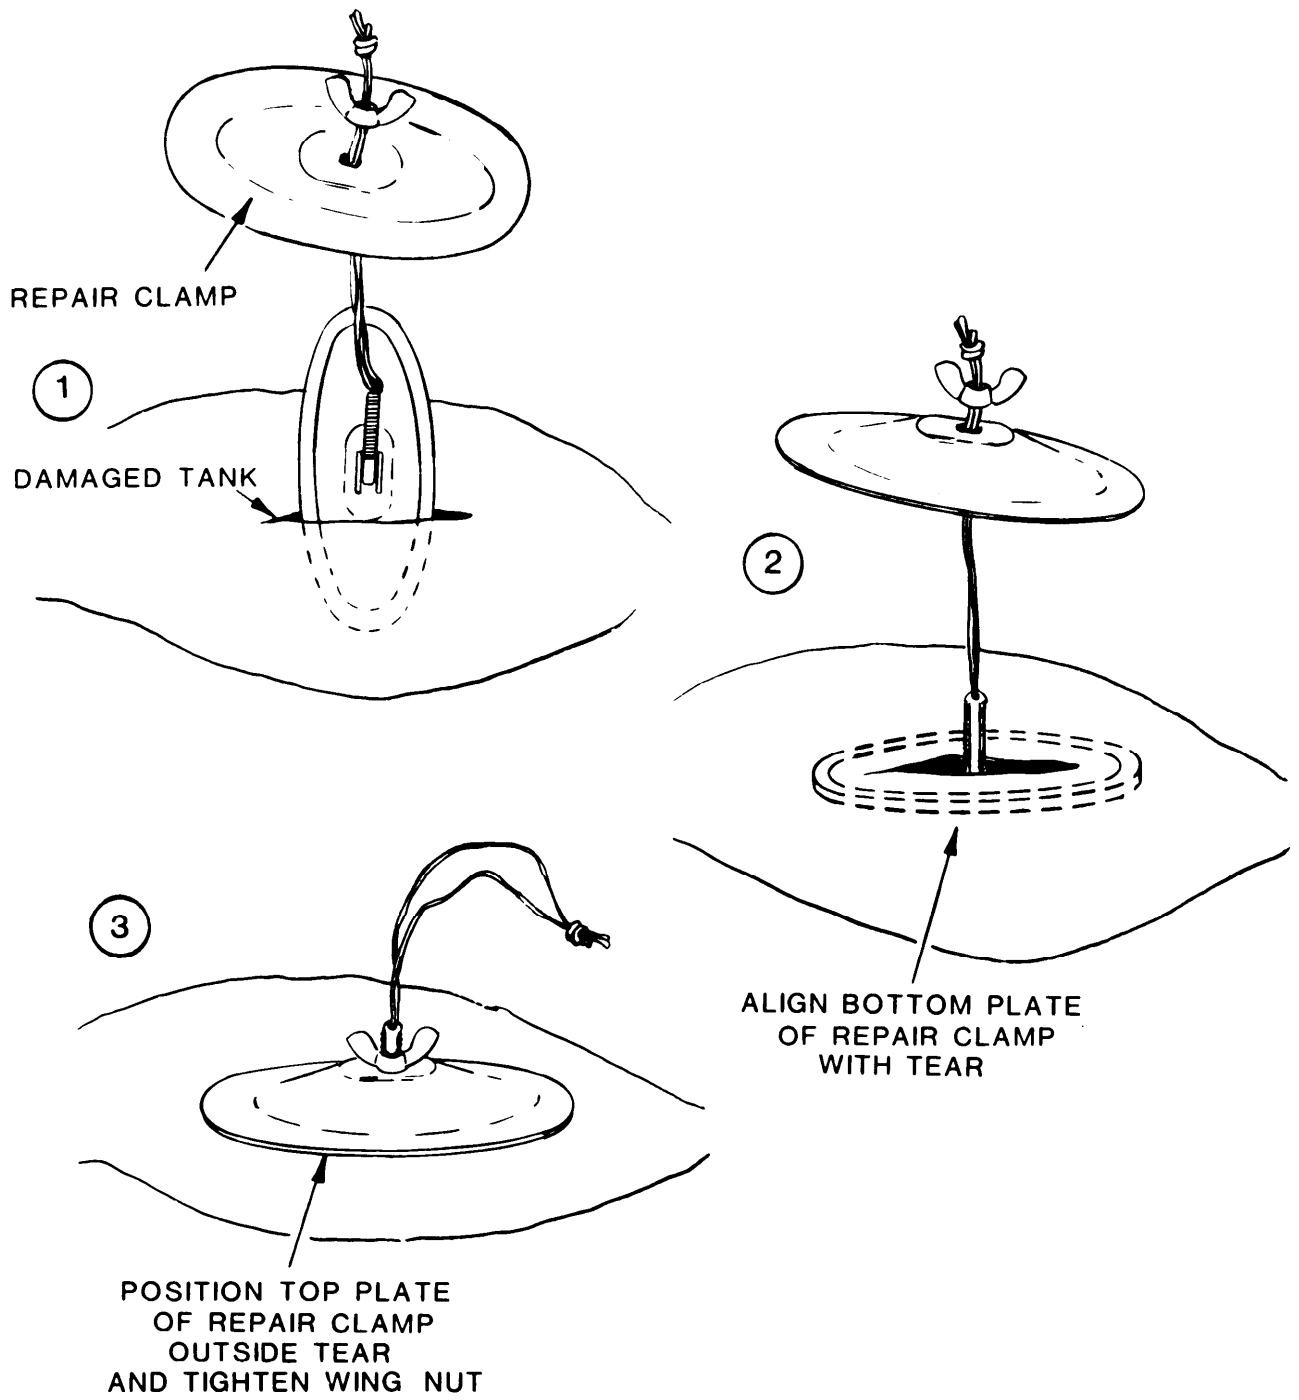

Figure 3-1. Repairing Tank Envelope with Sealing Clamp
- (1) Insert small end of plug into puncture, and turn clockwise until leak stops.
- (2) Remove plug and install clamp when operation permits.
b. Repairs with Clamps (See figure 3-1).
- (1) Select correct size of clamp using these guidelines for tears: